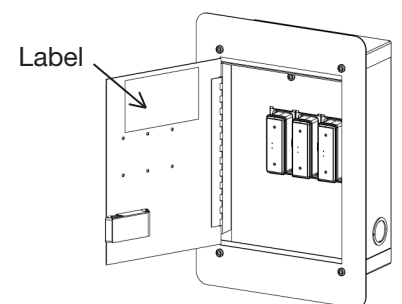

Figure 8
13) Place the unit label for your SPD model included with the kit to the inside of the flush mount door. Do not cover LED holes when placing label. (Fig. 8)